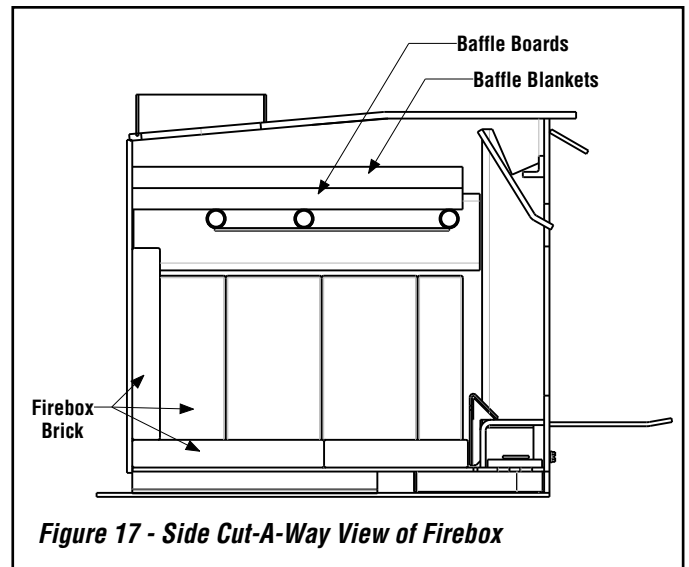

Figure 17 - Side Cut-A-Way View of Firebox
2. Install the baffle boards. All baffle boards included are the same size. Start by inserting the boards sideways between the front and middle tubes, then rotate pieces so the long side is going from the back of the unit to the front of the unit. Then slide the pieces left-to-right individually until all pieces fit between the left and right sides of the firebox flush above the tubes, making sure there is no gap at the back of the firebox (see **Figure 17**).
3. Also included with the unit are two baffle blankets (see **Figure 17**). Install each blanket above the baffle board to each side of the secondary support with the long side of the blanket from front to rear of the unit. Make sure that the baffle blankets are to the full rear of the unit.